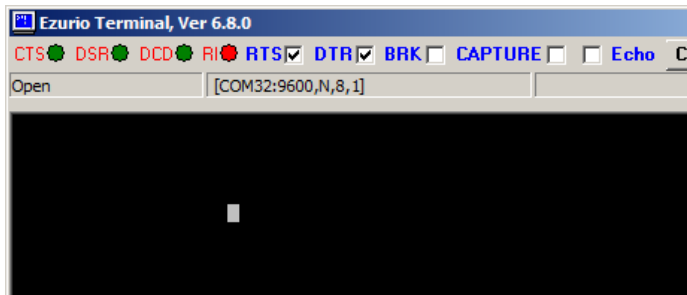

Figure 55: Terminal software virtual COM port
4. Open the virtual COM port (COM32) with terminal software (Figure 55).